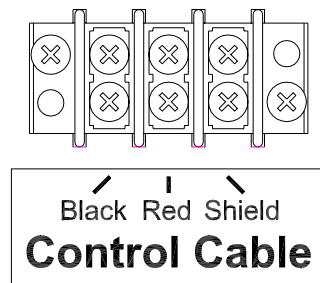

Figure 8 Control Cable Wiring Diagram
3. Connect the control cable to **Control Cable** terminal block according to figure 8.